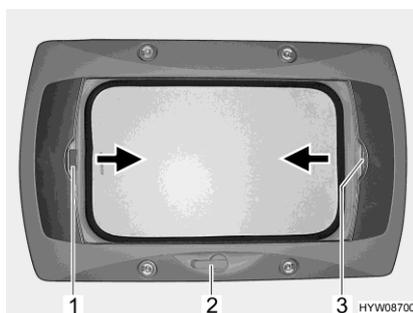

Fig. 54 Wind-up skylight
- Rotate the hand crank (Fig. 54,2) until a resistance can be felt.
Closing: ■ Pull the handle of the Roman shade (Fig. 54,3) in the direction of the arrow and release it in the desired position. The Roman shade will stay in that position.
Closing: ■ Use the handle to pull the insect screen (Fig. 54,1) in the direction of the arrow to the opposite handle of the Roman shade (Fig. 54,3) and allow it to engage.
Opening: ■ Press the handle of the insect screen (Fig. 54,1) at the back upwards and detach the insect screen from the Roman shade (Fig. 54,3).